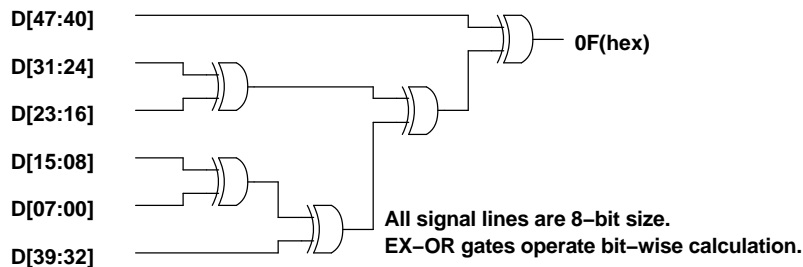
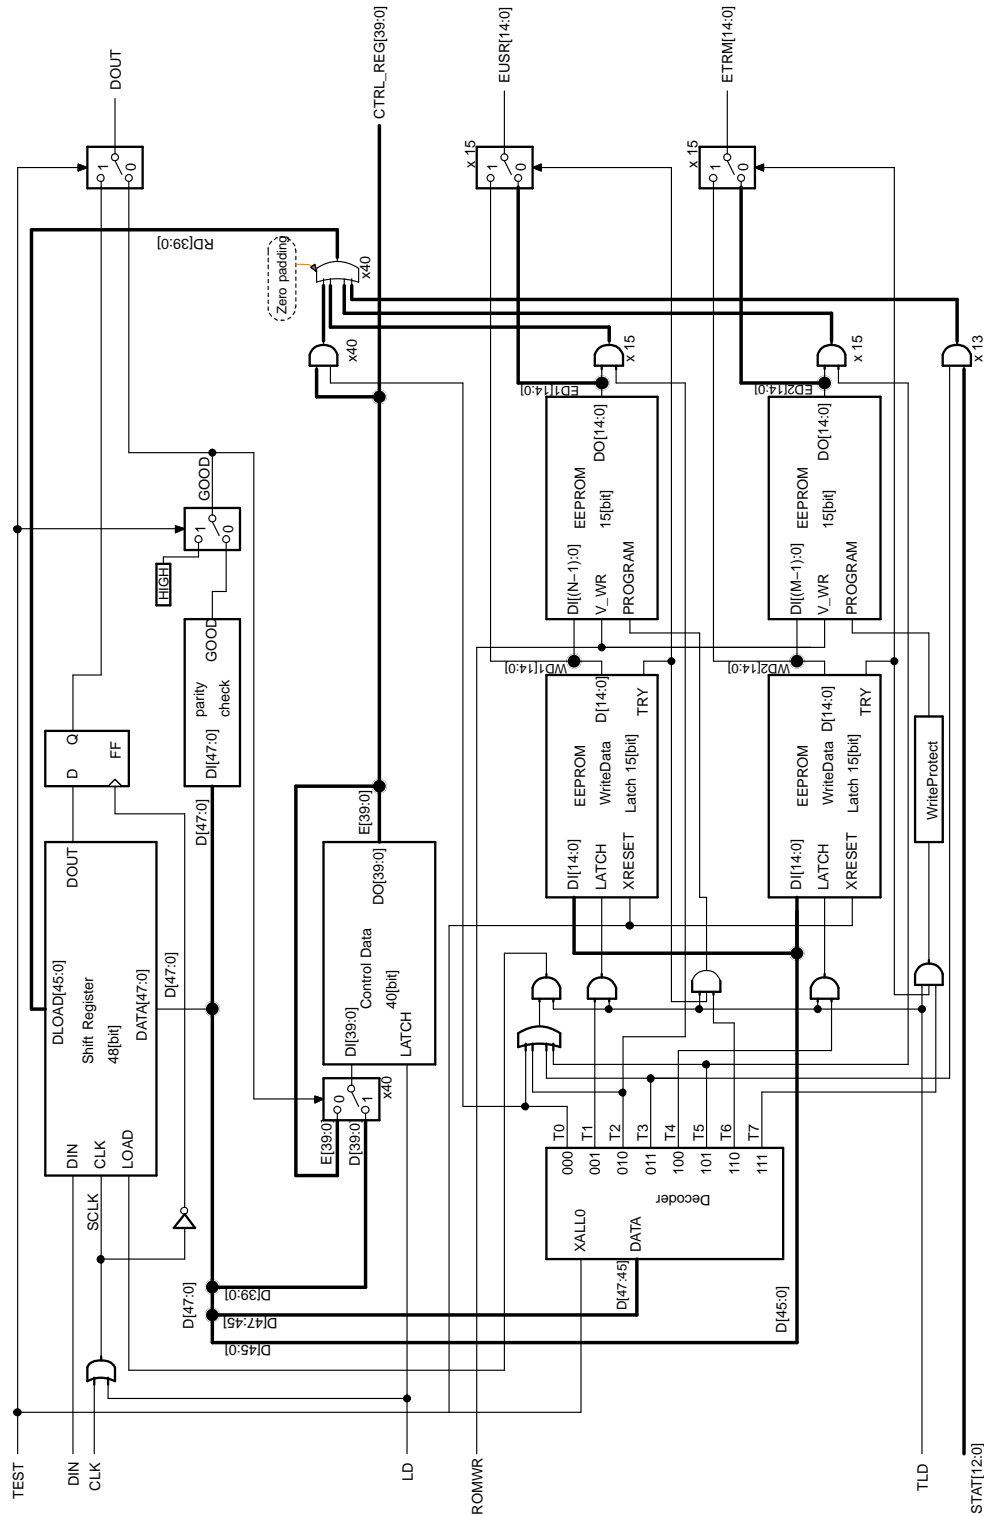

Figure 31. Configuration for Parity Bit Calculation
Figure 34. Serial Interface Block Diagram
Figure 34 shows the overall block configuration. In the figure, the 48-bit Shift Register block accepts D[47] (MSB) last in the time sequence. Figure 31 shows the configuration of the parity judgment circuit.
- Tests 0 to 7 require explicit mode switching using the Decoder shown in Figure 34. The Decoder uses the three high-order bits in the shift register to change the mode. Table 4 shows the bit assignment.